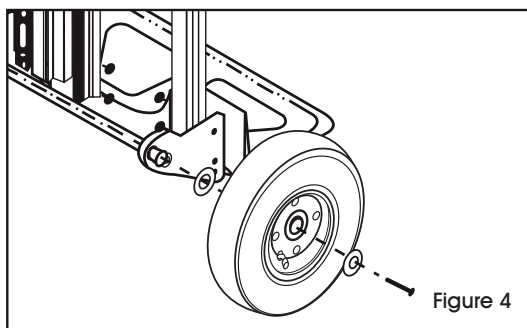

Figure 4
2. Slide a washer onto each end of the axle. Slide a wheel onto each end of the axle. Slide on a washer, then secure wheel with a cotter pin. Bend cotter pin using pliers. Wheels should spin freely. (See Figure 4)